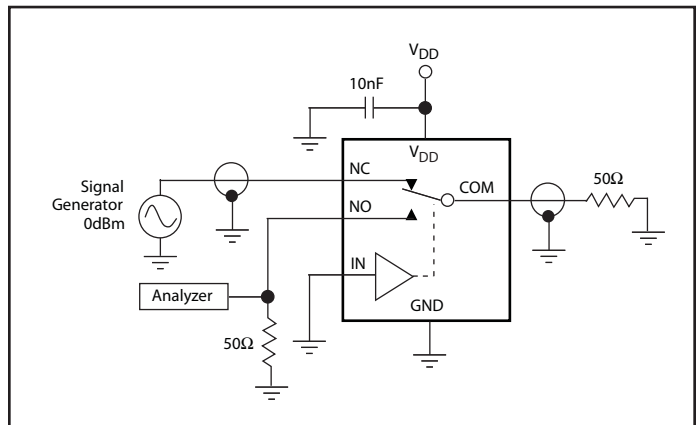

Figure 4. Crosstalk
7. Off Isolation =  $20\log_{10} [ V_{COM} / (V_{NO} \text{ or } V_{NC}) ]$ . See Figure 4.